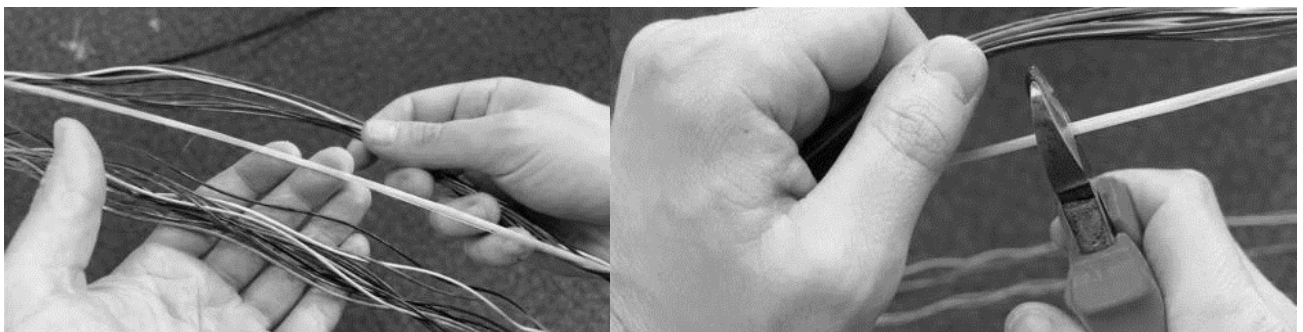

Figure 28 - Unwrap the 8 buffer tubes from the CSM at the reversal point.
5.15 Unwrap the 8 buffer tubes of the cable whilst splitting the central strength member in the middle i.e. the reversal point (Figure 28).